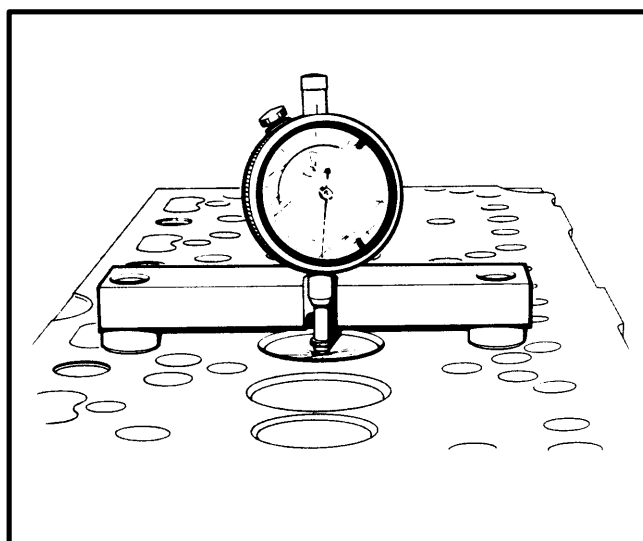

FIGURE 6. CHECKING THE DEPTH OF THE VALVE HEAD
2. Check the depth of a new valve head below the surface of the cylinder head after the seat is machined. See FIGURE 6. The exhaust valve head must not be more than 1.4 mm (0.055 in) below the surface of the cylinder head. The inlet valve head must not be more than 1.5 mm (0.061 in) below the surface of the cylinder head. If the depth of the valve head is more than the specification, the valve seat or valve must be replaced.